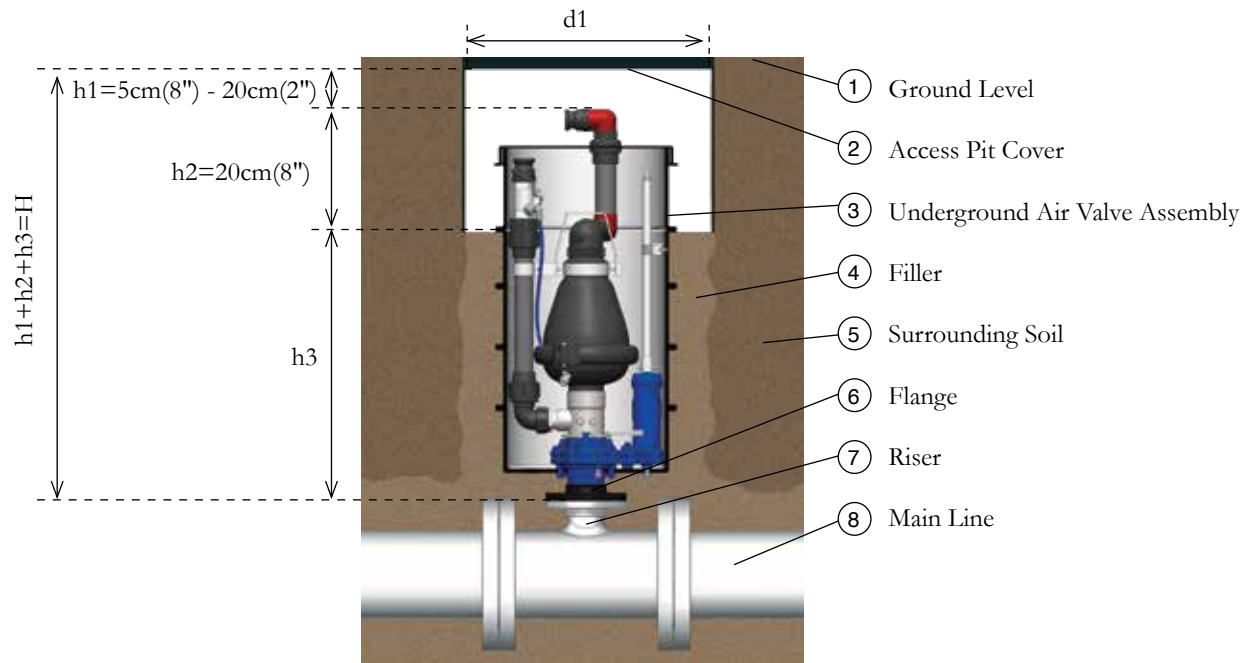

Fig. 3
The distance from the top surface of the Valve Box Cover (3) to the bottom of the access cover {h1} should be between 5 cm (2") and 20 cm (8"). From this point the overall height {H} of the unit from the pipeline flange or riser flange will be measured (See Fig. 3).
The bore diameter {d1} should be at least 1 meter (40"). This will allow at least 30 cm (12") for the filling material around the Valve Box (7) (See Fig. 3).
The unit must be surrounded with a fine grained filling material such as sand or very fine gravel (in accordance with local standards and by-laws). The filling material must be of a type that will not expand when absorbing water. (See Fig. 3).